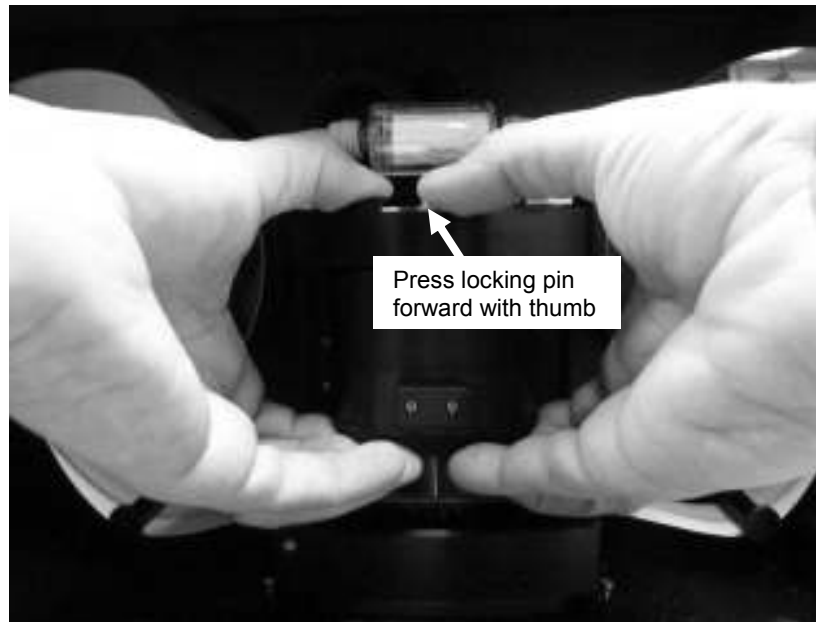

Figure 3
- 4.) Once the optical head assembly is pulled all the way up, hold it in position and then use your thumb to press the locking pin forward. Lower the optical head assembly and it will now stay in the up position (Figure 3).